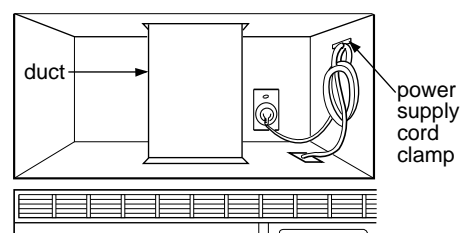

Figure 37
7. Roof venting installation: Install ductwork through the vent opening in the upper cabinet. Complete the venting system through the roof according to the method needed. See Figure 37. See PREPARE THE VENTING SYSTEM, STEP 2 on the page 35. Use caulking to seal the exterior roof opening around the exhaust cap. See Figure 6 on page 35.
8. Use the power supply cord clamp to bundle the power supply cord. Install the power supply cord clamp, using a screw as shown in Figure 37, to inside of the cabinet.